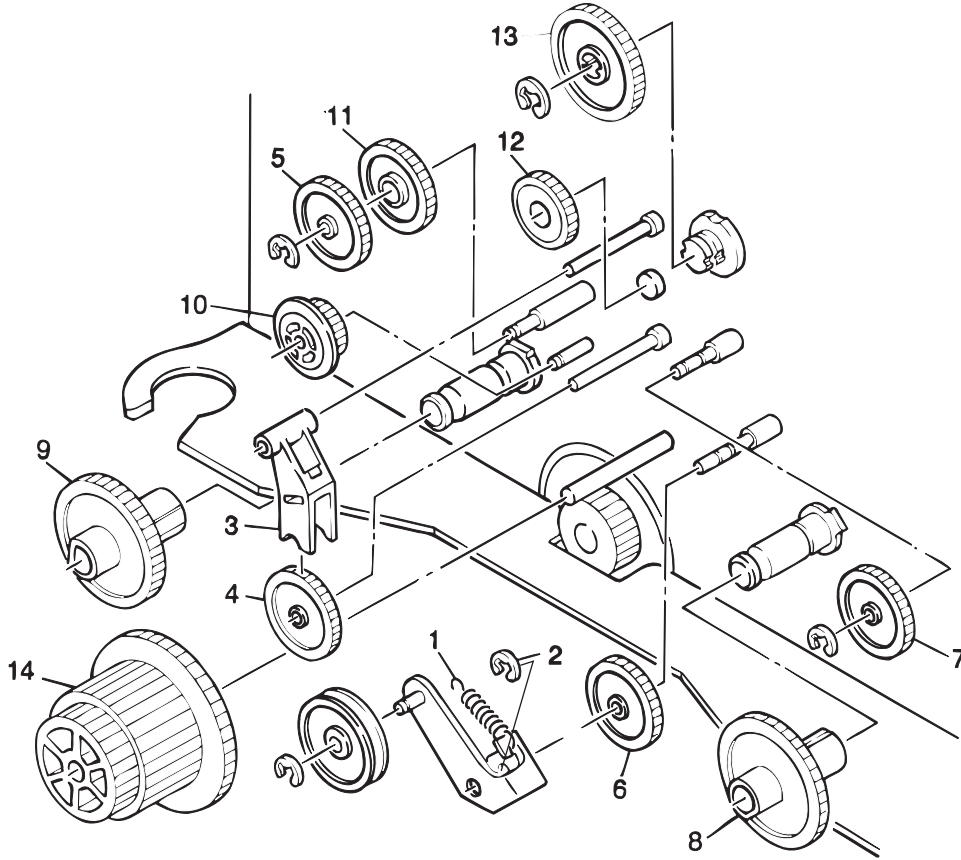

Figure 3-72. Left Side Frame Gear Removal
- Step 4: Remove the series of gears in the order indicated by the numbers in Figure 3-72.